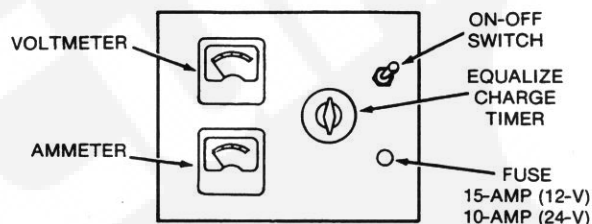

FIGURE 3. BATTERY CHARGER FRONT PANEL COMPONENTS
The charger has two modes of operation: (1) equalize charge, and (2) float charge. The manually set equalize charge timer (Figure 3) raises the charger output voltage for a selected time period up to 12 hours. The charger returns to float charge at the end of the selected time period.